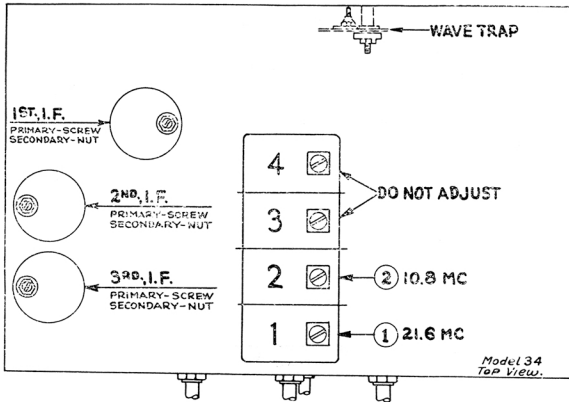

Fig. 9
2. Replace the grid clip upon the Detector-Oscillator tube (Type 1C6). Connect the output leads from the signal generator directly to the antenna and ground terminals of the receiver. Set the Wave-Band Switch of the receiver to the standard broadcast band (Range 1) and the Station Selector at the low frequency (520 K.C.) end. Adjust the Wave Trap condenser to give MINIMUM response to a 460 K.C. signal from the signal generator. The Wave Trap is located at rear and underneath the chassis, and is shown in Figure 9. It is reached from the rear of the chassis.
Connect the output meter as explained on page 2. Set the signal generator at 460 K.C. (the intermediate frequency of Model 34) and adjust each of the I.F. compensating condensers in turn, to give maximum response in the output of the receiver. The location of the I.F. compensating condensers is shown in Figure 9. Each of these transformers has a dual compensating condenser mounted at its top, and accessible thru a hole in the top of the coil shield. In the dual compensators, the Primary circuit is adjusted by turning the screw; the Secondary circuit is adjusted by turning the hex-head nut.